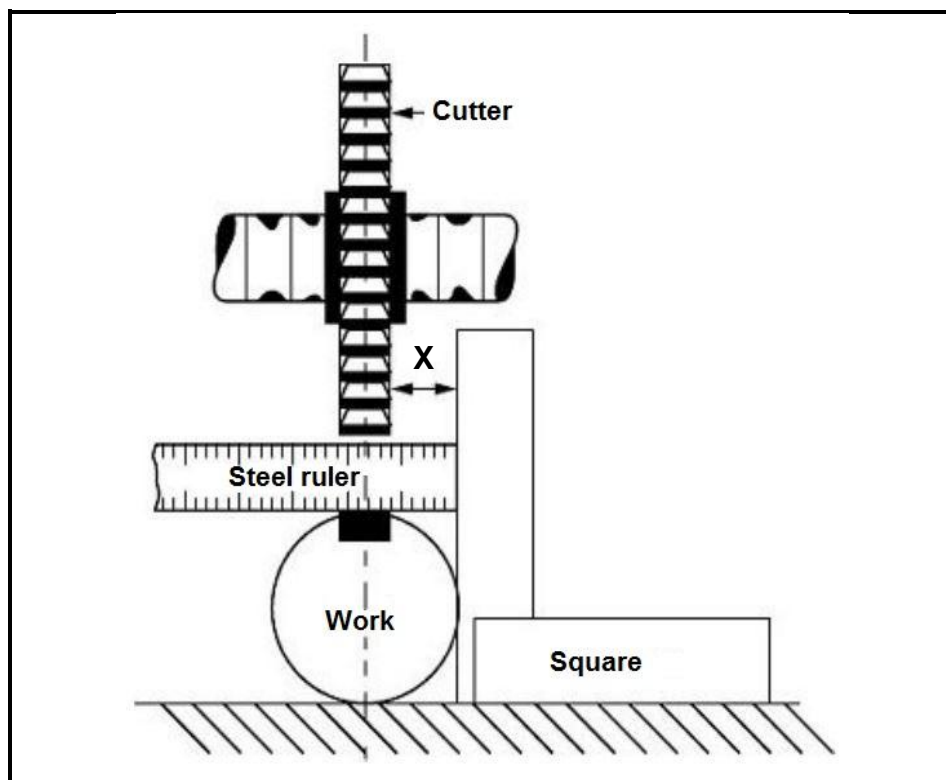

FIGURE 5.6
- 5.6 A 12 mm milling cutter must be centred on a 60 mm diameter work piece by using the steel ruler method on a milling machine as shown in FIGURE 5.6 below. Calculate **X** in order to centre the milling cutter. (3)